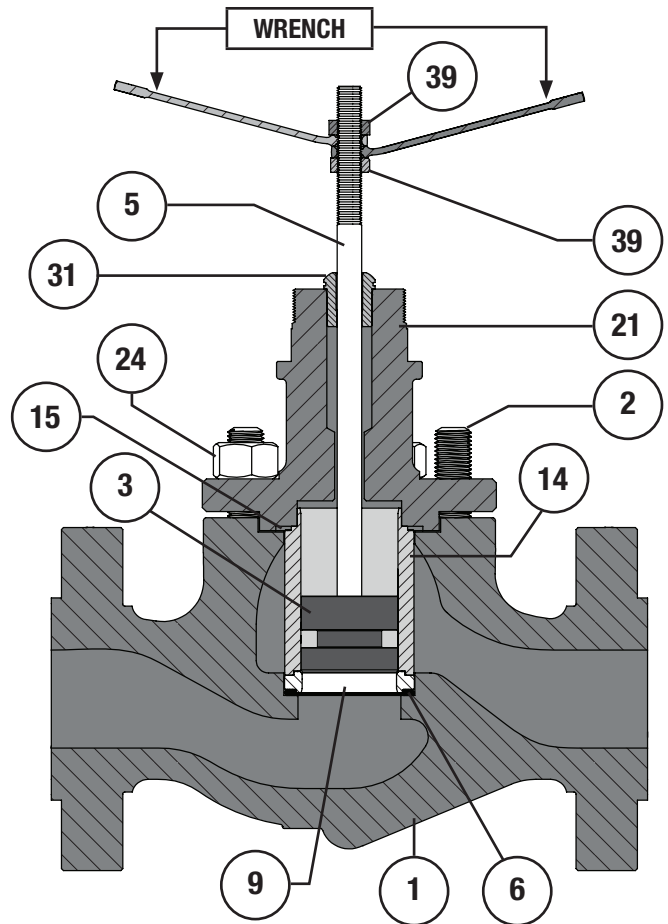

Figure 13 Lapping Procedure Setup (Steps 1 - 8)
- 8 Install the jam nut (Key 38) on to the valve stem (Key 5) and build a handle as shown in Figure 13 and 14 using the two wrenches and the hex nut (Key 39).